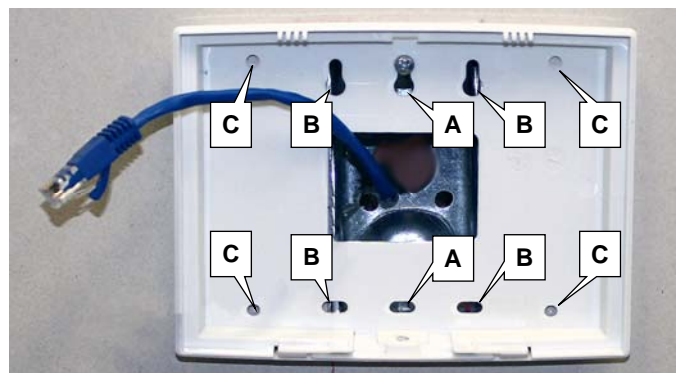

Fig. 2: Rear housing mounting holes for single-gang (A) and double-gang (B) electrical boxes, and four all-purpose holes (C)
Shown in Fig. 2, the rear housing includes two mounting holes for single-gang (A) and four mounting holes for double-gang (B) electrical utility boxes, as well as four all-purpose holes (C) for mounting to drywall or other surfaces (use minimum #6 screws suitable for the surface).